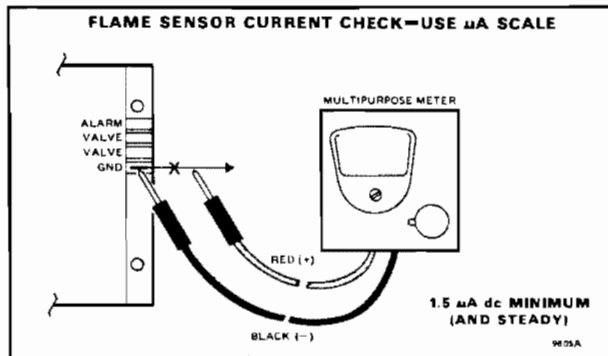

Figure 11 - S87 Flame Current Measurement
1. Connect a meter (dc microammeter scale) in series with the flame signal ground wire as shown in Figure 11. Disconnect the ground wire at the S87. Connect the red (positive) meter lead to the free end of the ground wire. connect the black (negative) meter lead to the quick connect ground terminal on the S87.